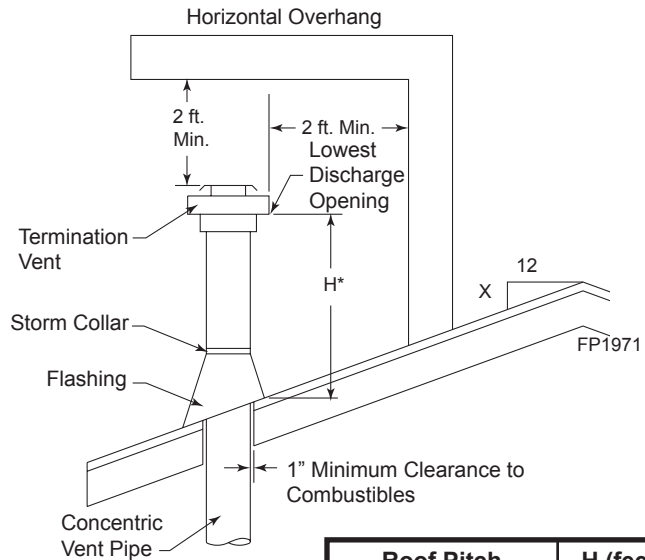

Figure 33 -
4. Using tin snips, cut the support box from the top corners down to the roof line and fold the resulting flaps over the roof sheathing. *Figure 33.* Apply a bead of non-hardening mastic around the top edges of the support box to make a seal between the box and the roof. Nail in place with roofing nails. Remove any combustible material that might be inside the support box.